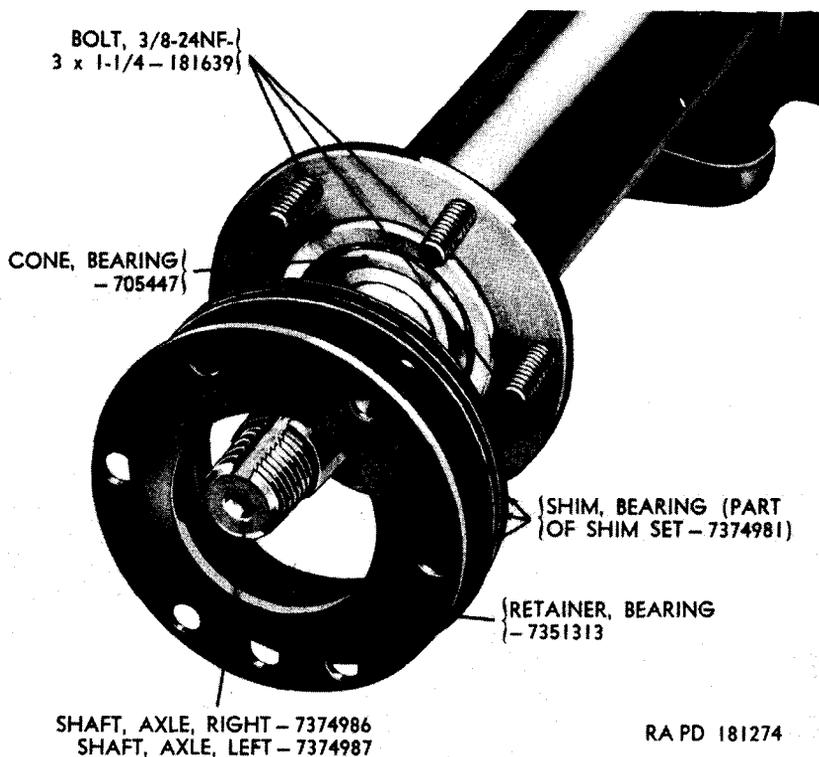
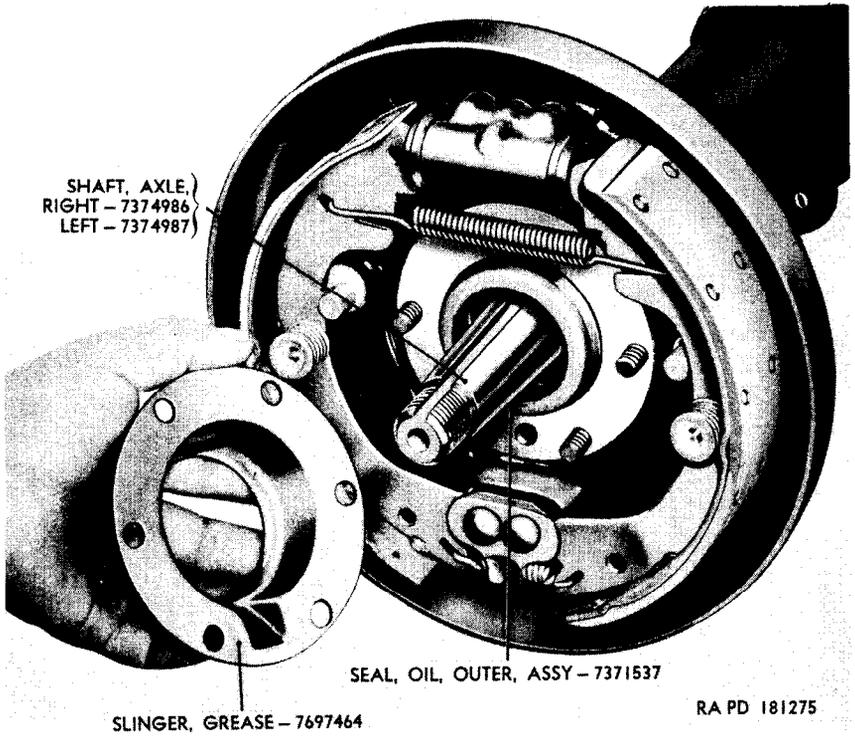

Figure 138. Bearing shims and bearing retainer in position on rear axle shaft.
Figure 139. Installing grease slinger.
c. *Install Brake Assembly.* Install bearing shims and bearing retainer on axle shaft (fig. 138). Install six $\frac{3}{8}$ -24NF-3 x $1\frac{1}{4}$ bolts in flange of housing tube. Install new or rebuilt brake assembly. Refer to paragraphs 184 through 193 for brake assembly rebuild instructions. Coat grease slinger gaskets with plastic type gasket cement. Install gaskets, one on each side of outer oil seal assembly. Install outer oil seal assembly and rear grease slinger (fig. 139). Install six $\frac{3}{8}$ -24NF-3 lockwasher nuts. Tighten nuts to torque of 25 to 35 pound-feet.